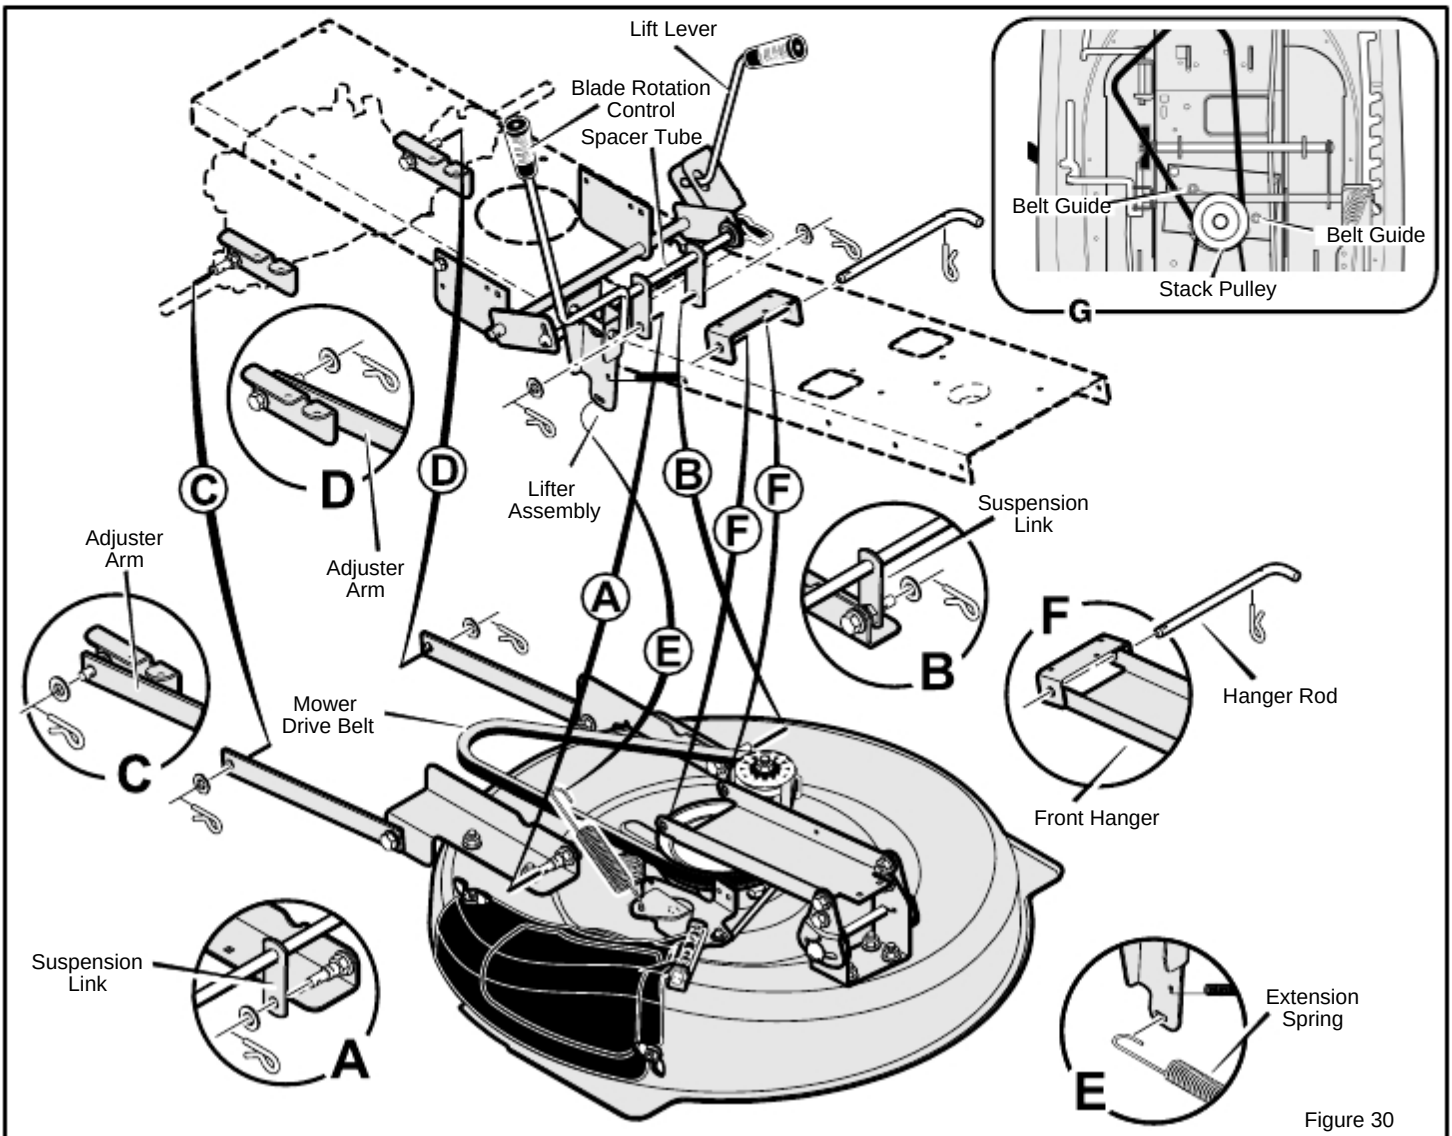

Figure 30
3. Remove the R pins and the washers from the **rear suspension arms** (Figure 30). See illustrations "C" and "D".